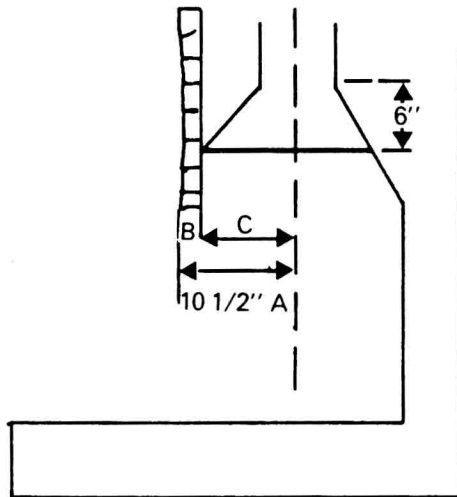
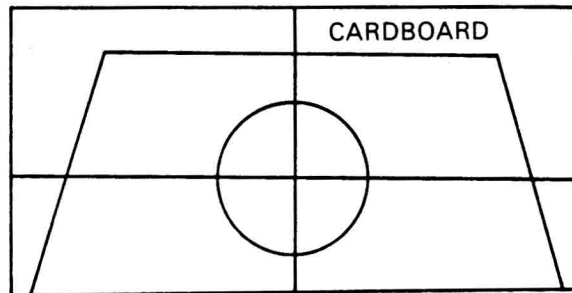

Fig. 1
Fig. 2
- Measure the fireplace throat (depth and width) approximately 6" below damper opening. Make a cardboard template to above measurements and make sure it will fit properly. (see figure 1)
- From front to back draw a centre line (figure 2). You get the centre line for the depth (dimension c) as follows: A - B = c (depth of facing) (figure 1). Mark center line. At the crossing of lines, cut out 8-1/8" diameter flue hole (for classic: 6-1/8") (figure 2).